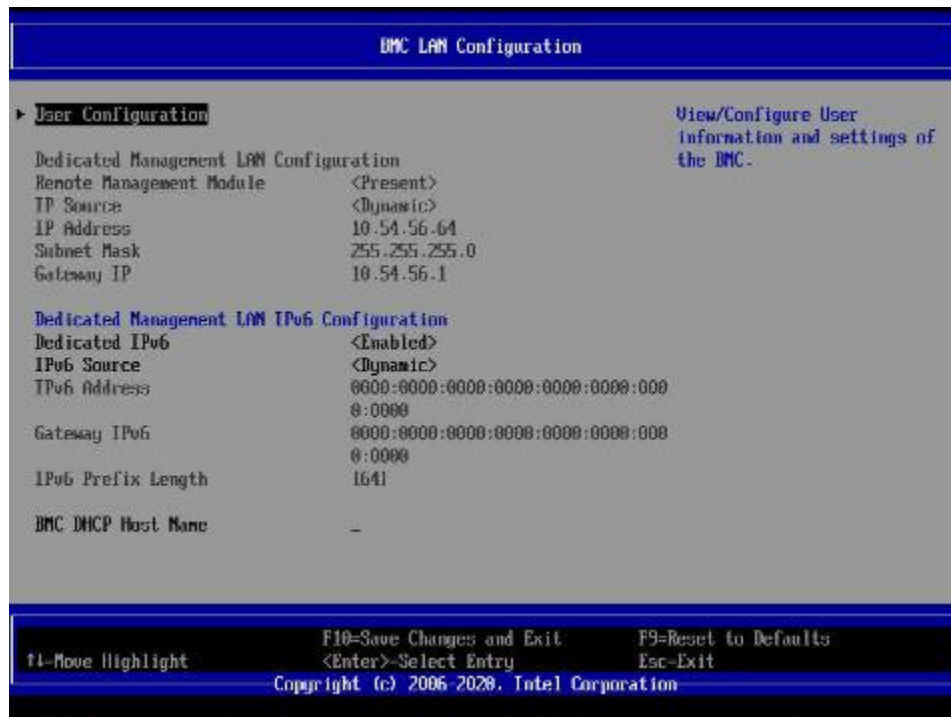

Figure 28. BIOS Setup BMC LAN Configuration Screen
2. Navigate to the **Server Management** tab and select **BMC LAN Configuration** to enter the BMC LAN Configuration screen (Figure 28).